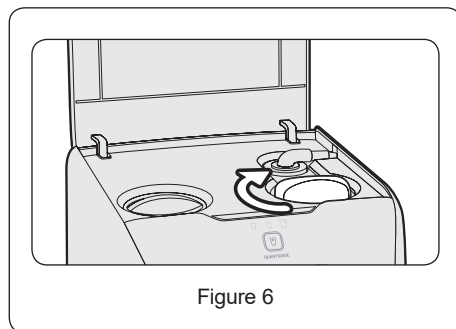

Figure 6
4. With the product turned on, connect the filter to the product and screw in the direction indicated until it is aligned with the arrow to lock it (Figure 6).